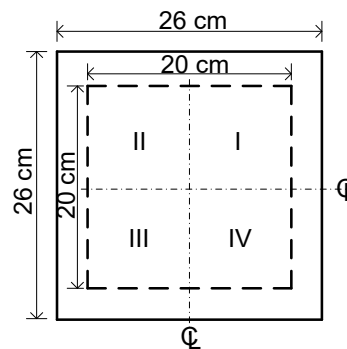

Figure 2. The allowable site area of the model
4.1 Basic Requirements	<p>4.1.1 Each team has 5.5 hours in total for constructing their building model.</p> <p>4.1.2 The structural components should be composed of the materials provided by the organizer. For example, the structural components can combine with a single wooden stick, multiple wooden sticks, strings, rubber bands and papers.</p> <p>4.1.3 Models must be constructed on the base board (26 cm × 26 cm × 0.55 cm) provided by the organizer. A 3 cm clearance around the edges of the base board must be kept in order to fix the model onto the shaking table.</p> <p>4.1.4 There is only a load platform for each model. The number of mass blocks is from 12 to 24, and two layers of mass blocks are the maximum limit.</p> <p>4.1.5 The vertical projection of the entire model and mass blocks must be located in the 20 cm × 20 cm central area of the base board (i.e., the area enclosed by the dashed lines shown in Fig. 2). Any material (hot-melt glue included) must not contact the fourth-quadrant (IV) base board. In addition, the number of the mass blocks completely, not including partially, located on the fourth-quadrant load platform must be not less</p>
5.2 Mass blocks must be installed on the load platform and not over the boundary of the load platform (Fig. 2).